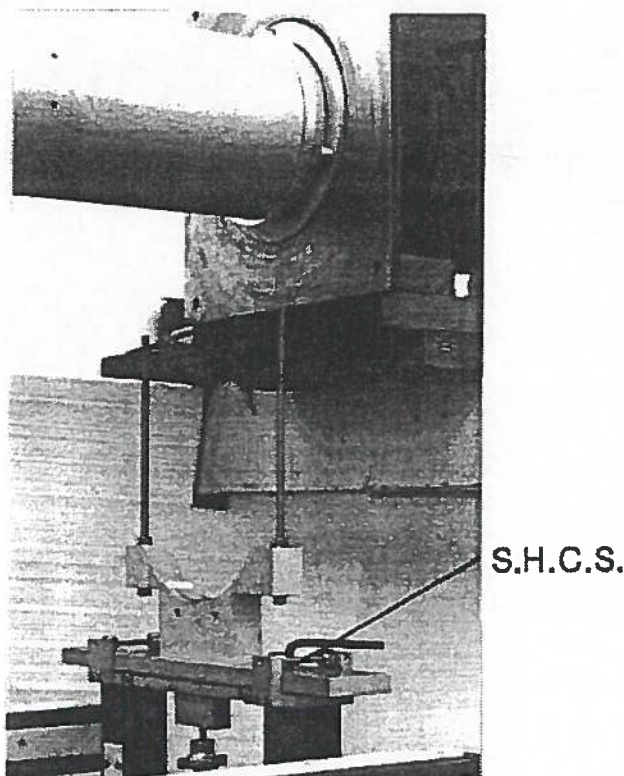

FIG. 19
**Note:** If you are installing a Model 8, E, E-HD, or F manipulator, it is sometimes necessary to remove the slave handling fixture to allow the lower lateral counterweights to pass through the slave jack assembly. This can be easily done by removing two socket head cap screws (Fig. 19).